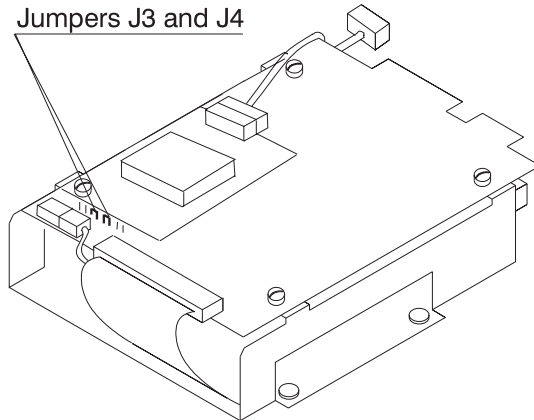

Figure 4-43. New Type of HDD
1. Identify the HDD that you received using Figure 4-43 (several types of HDD are available).
2. If you receive a new HDD assembly (similar to the HDD Figure 4-43), continue with Step 3. Otherwise go to Step 6.
3. Ensure that the jumpers are present in positions J3 and J4. See Figure 4-43.